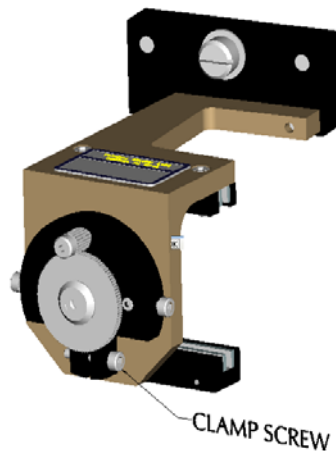

Figure 9-5
4. Loosen the cap screws and remove the cover that protects the Iris Adjustment Mechanism. There is a reduction gear drive mechanism under the cover used to provide precise adjustment of the Iris. See Figure 9-5.